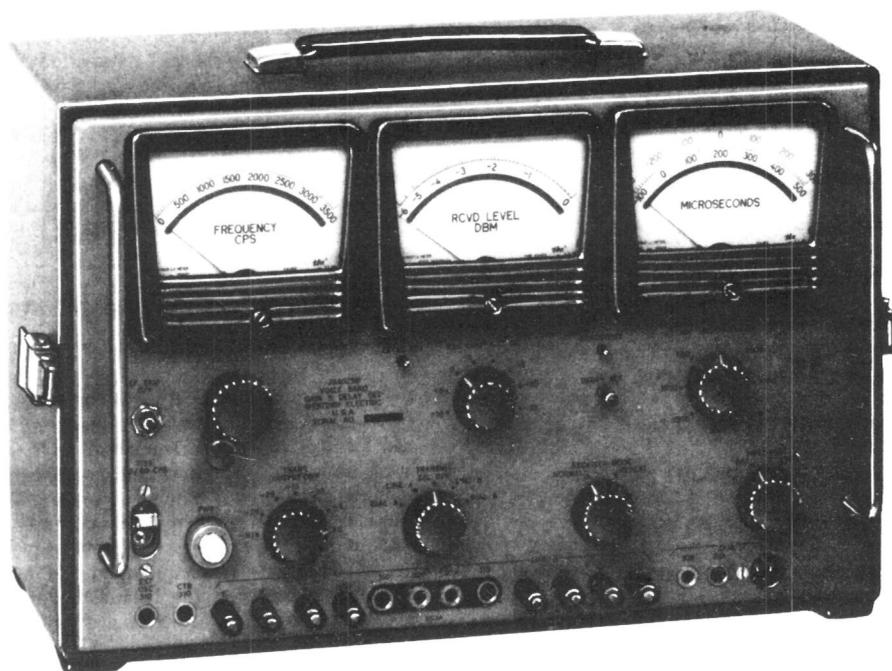

Fig. 1—25B Portable Set
2.04 25B Set Only: The List 1 set (see Fig. 1) is a portable set, but with the addition of
the face panel of these instruments (see Fig. 1 and 2) except: